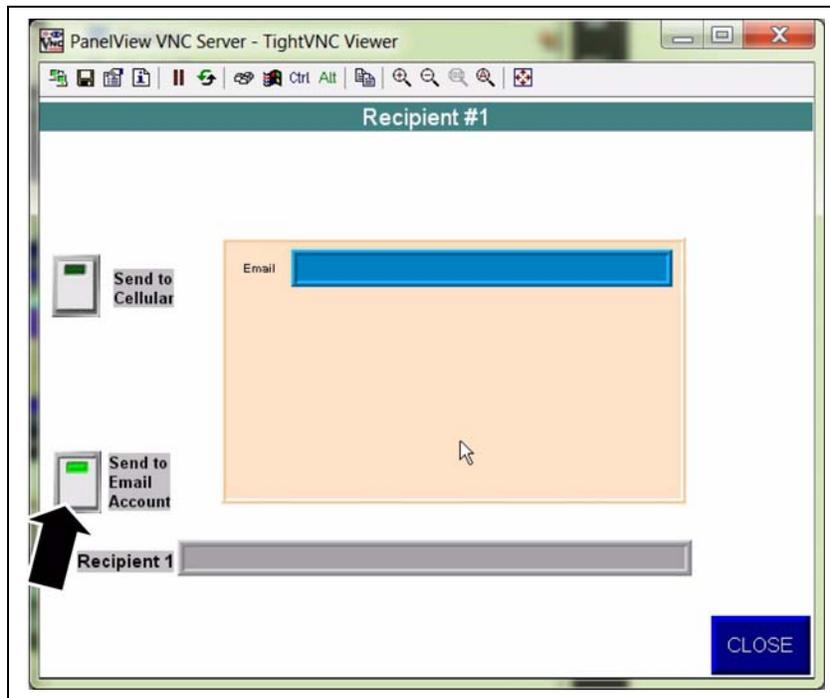

Figure 6F
- To send the message to an email recipient, press the radio button next to “Send to Email Account”. (See Figure 6F.)